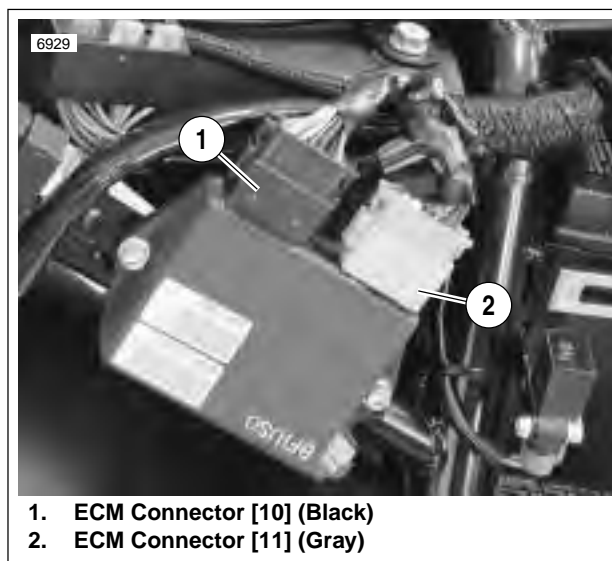

Figure 4-18. Electronic Control Module
2. See Figure 4-18. Inspect connector [10] (black) for contamination or corrosion. If connection is good, replace ECM. See 4.29 ELECTRONIC CONTROL MODULE.